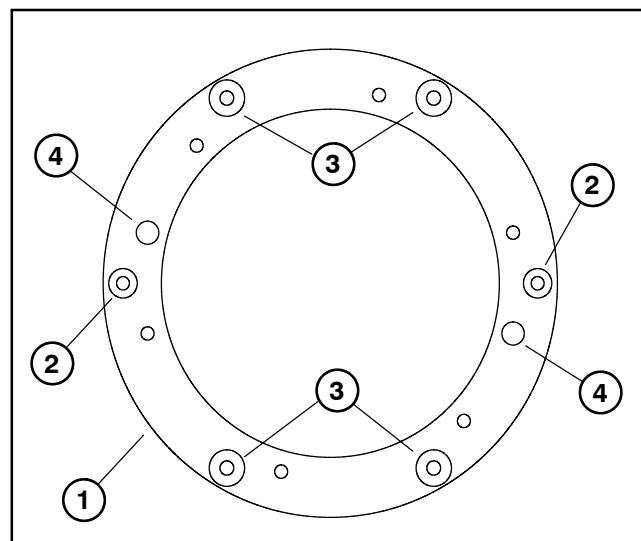

Figure 19
1. Position coupling spacer to engine and align mounting holes. Use two shoulder bolts and lockwashers in the positions shown in Figure 19 to secure the spacer to the half threaded holes in engine flywheel. Torque shoulder bolts from 17 to 21 ft-lb (23 to 28 N-m).
3. Place dowels in locating holes of coupling spacer (Fig. 19).